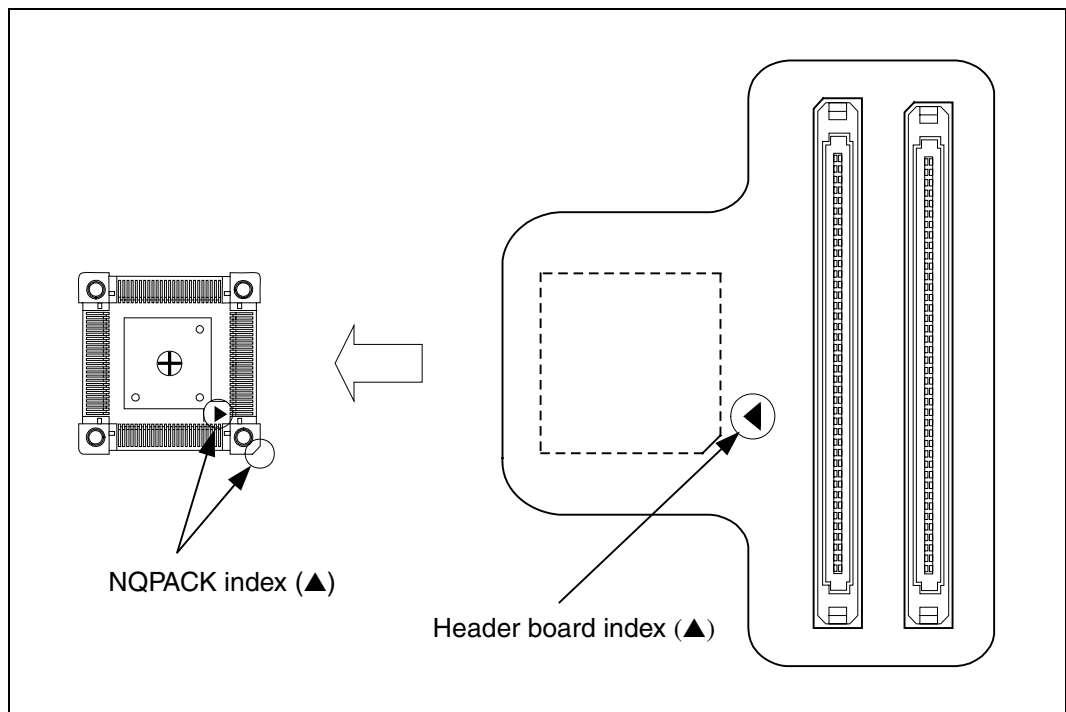

Figure 3 Index position
1. To connect the header board to the user system, match the index mark (▲) on the NQPACK mounted on the user system with the index mark (▲) on the header board and then insert it (see Figure 3).